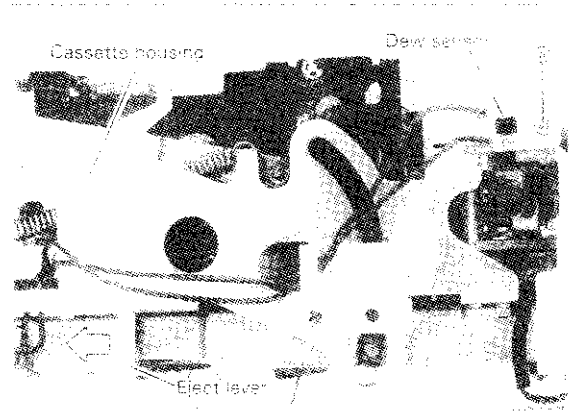

Fig. 3-1-1
- (1) Keep the cassette housing closed.
- (2) Remove the fixing screw (A) (Fig. 3-1-1) and take the dew sensor and the lead wire off the cassette housing.